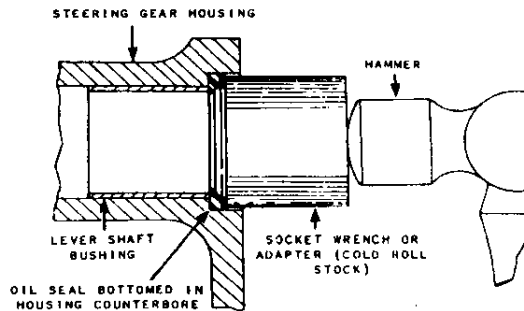

FIG 37 - LOCATION AND INSTALLATION OF
- a. Install new lever shaft oil seal (fig 37). Position oil seal in housing with side stamped "Fluid Side" toward bottom of counterbore. Using a hammer, tap lightly on the end of a socket wrench or adaptor (cold rolled stock having a slightly smaller outside diameter than the oil seal) so that the seal bottoms in the counterbore of housing.